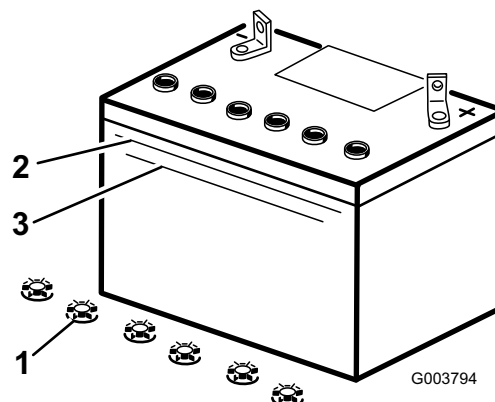

Figure 34
3. Look at the side of the battery. The electrolyte must be up to the Upper line (Figure 34). Do not allow the electrolyte to fall below the Lower line (Figure 34).
3. Remove the filler caps from the battery (Figure 34).
4. Slowly pour distilled water into each battery cell until the electrolyte level is up to the Upper line (Figure 34) on the battery case.
5. Wait five to ten minutes after filling the battery cells. Add distilled water, if necessary, until the electrolyte level is up to the Upper line (Figure 34) on the battery case.